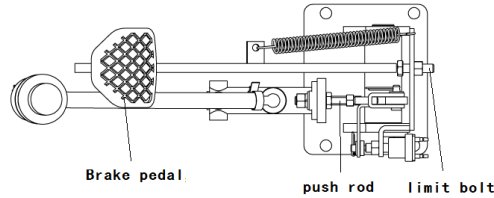

Figure 14
5.3.7 Brake pedal adjustment .shown as figure 14